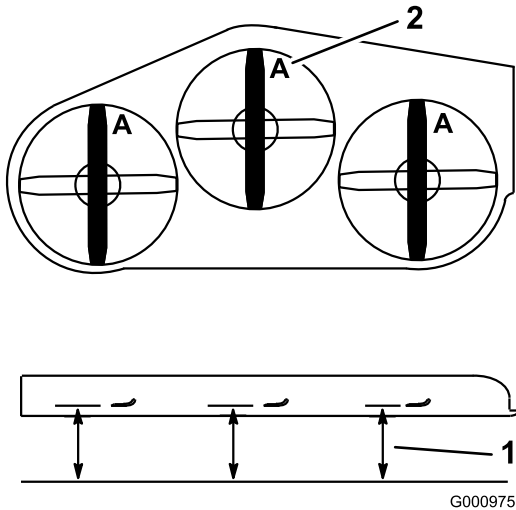

Figure 81
3. Rotate the blades until the ends face forward and backward. Measure from a level surface to the cutting edge, position **A**, of the blades (Figure 81). Note this dimension.